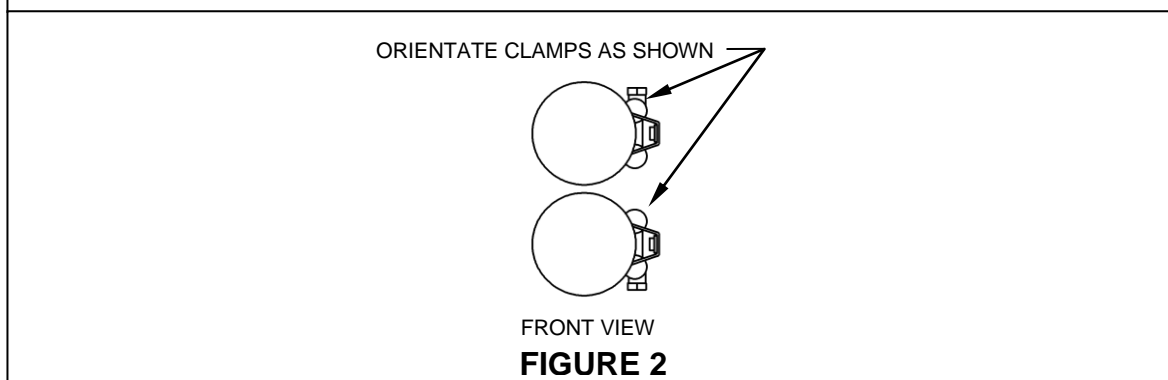

FIGURE 2
7. Remove the muffler assembly from the box and slide one supplied clamp #27-61MSC onto each muffler tube. Refer to Figure 2 for proper alignment.
10. Unscrew the remaining hose clamps and feed the tail end of the clamp through the clips on the inside of the heat shields. The screw end of the hose clamp should be accessible for tightening but not visible when the heat shields are mounted to the pipes (see figure 2).
11. To install the front heatshield, first slide the rear portion of the heatshield over the muffler, continue to slowly slide it forward pushing the front of the shield gently into place between the frame and motor (Hint: Spread the hose clamps apart slightly to make it easier to slide them over the muffler assembly and head pipes). Make sure the muffler clamps don't interfere with the heatshields and are aligned as shown in figure 2. Snug the heatshield clamps but **do not tighten.**